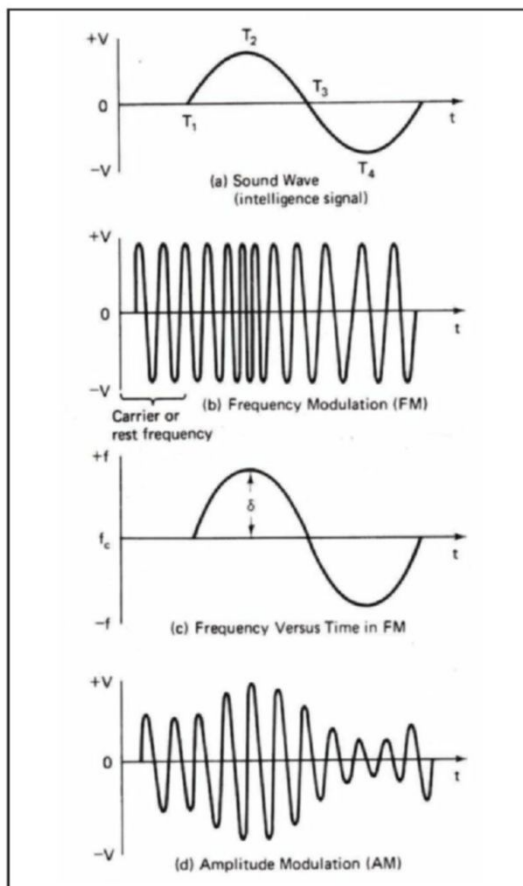

Figure 5: This figure compares tremolo (AM) and true vibrato (FM). (Miller, op. cit., p. 156.)
As we previously mentioned, vibrato involves changing the instantaneous frequency of a wave. This can be done either by direct frequency modulation (FM) or by phase modulation (PM). Since frequency is the time derivative of phase, FM and PM are equivalent but not identical. In FM, the deviation, or instantaneous variation in frequency compared to the unmodulated wave, depends only upon the modulating signal amplitude; whereas in PM, it depends upon both the modulating signal's amplitude and its frequency. So if the modulating signal is low-pass-filtered (integrated) before being used to phase-modulate the “carrier” wave—in this case, the notes produced by the electrical or electronic musical instrument—true FM results. AM and FM are compared in **Figure 5**.